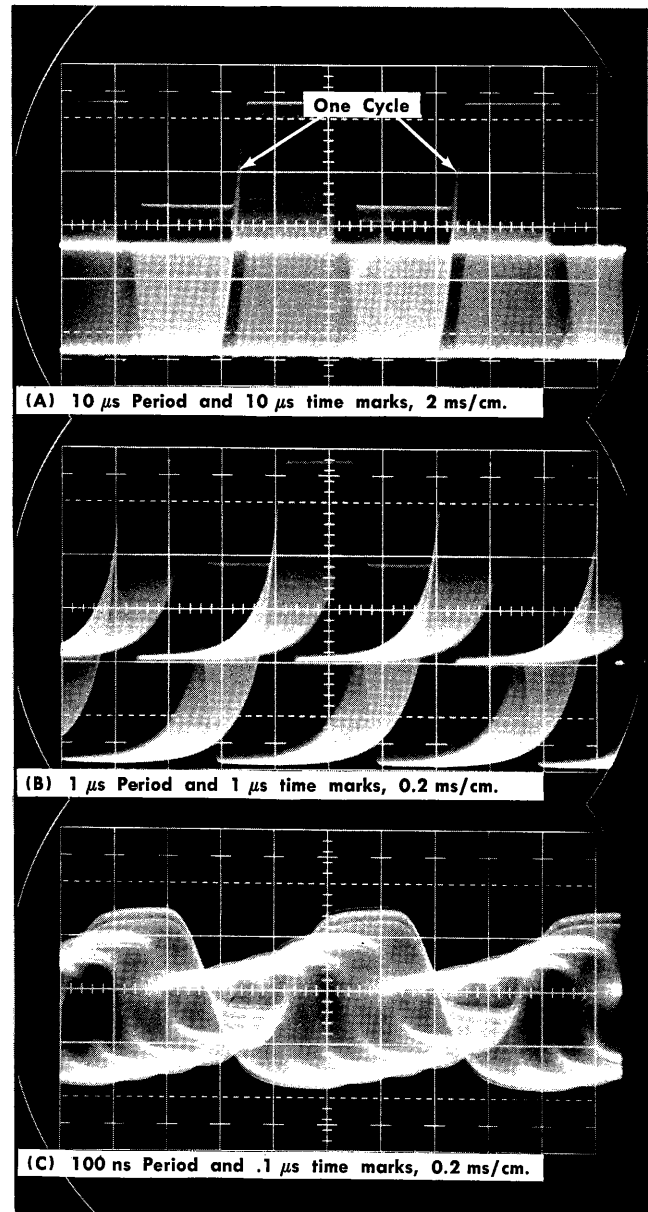

Fig. 5-4. Typical displays of beat frequency.
e. Set the Type 284 PERIOD switch to 10 μs and set the Time Mark Generator for 10 μs time markers. Internally trigger the test oscilloscope on the beat frequency displayed. Fig. 5-4 shows the typical displays.